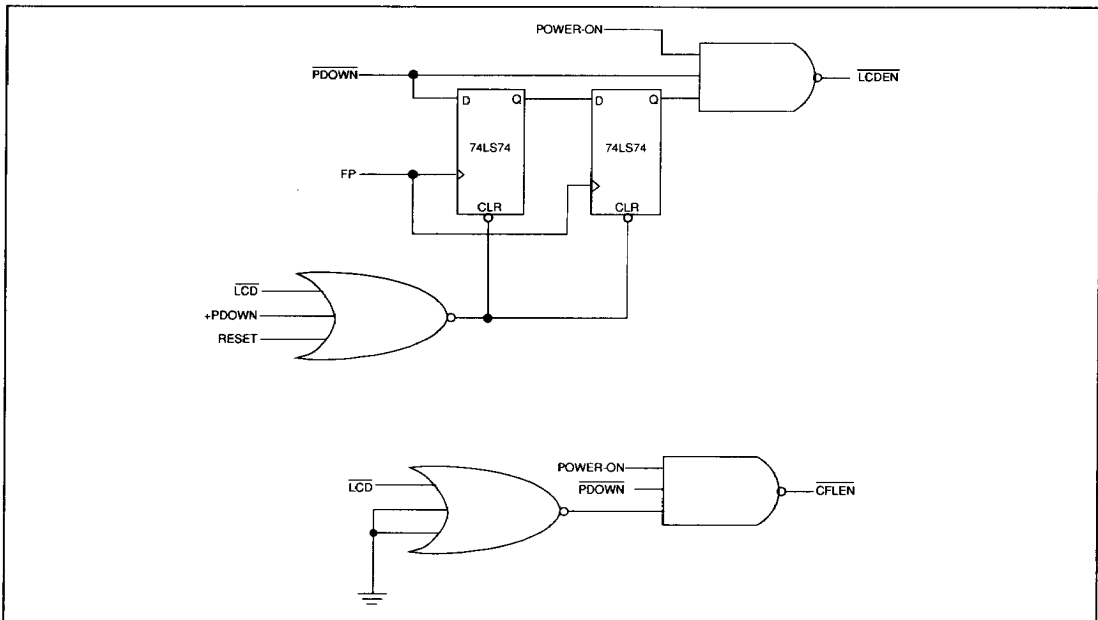

FIGURE 8-1. LCD PANEL CONTROL
8.1 DESCRIPTION OF SIGNALS FOR FIGURE 8-1
Described below are the signals related to the poweron/off control logic in Figure 8-1.